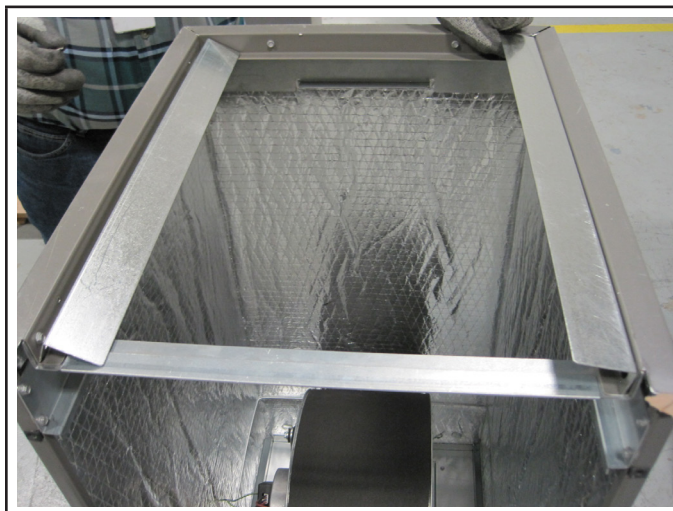
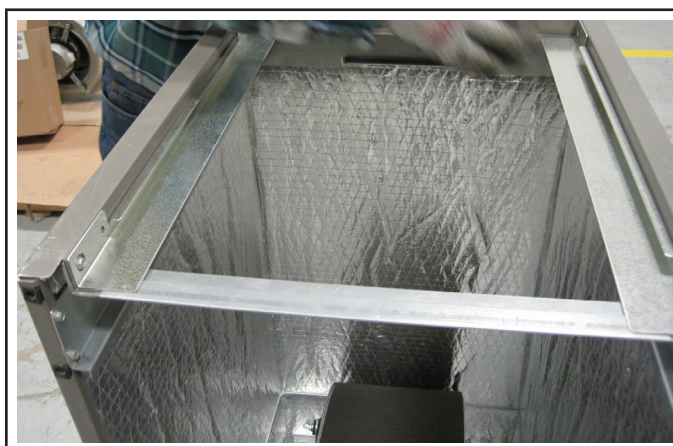

FIGURE 20.
FIGURE 21.
- 3 - Uninstall the filter rails at the top of the cabinet and flip them for downflow configuration (FIGURE 20 and FIGURE 21).